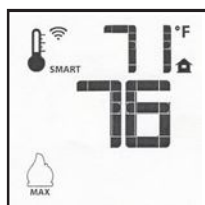

Figure 15 - Remote Control Displaying Smart Thermostat Function
1. To activate this function, press the Thermostat key until the word “SMART” appears to the right of the temperature bulb on the LCD screen (see Figure 15).